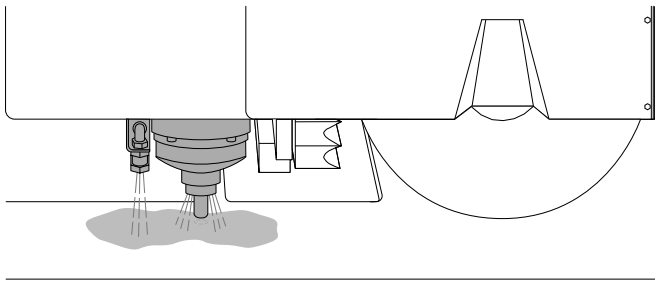

fig. 3
This process can be carried out using a CNC machine. Mirage® recommends using the specific diamond core drill bit, paying close attention to the depth of the hole based on the thickness of the starting slab, to prevent accidental breakage during fabrication. (fig. 3).
- Once the epoxy adhesive dispenser is identified and prepared, it is important to discard the first 5 cm of the adhesive to ensure that the applied product is well-mixed (resin and catalyst) and color-homogeneous (*fig. 3*).